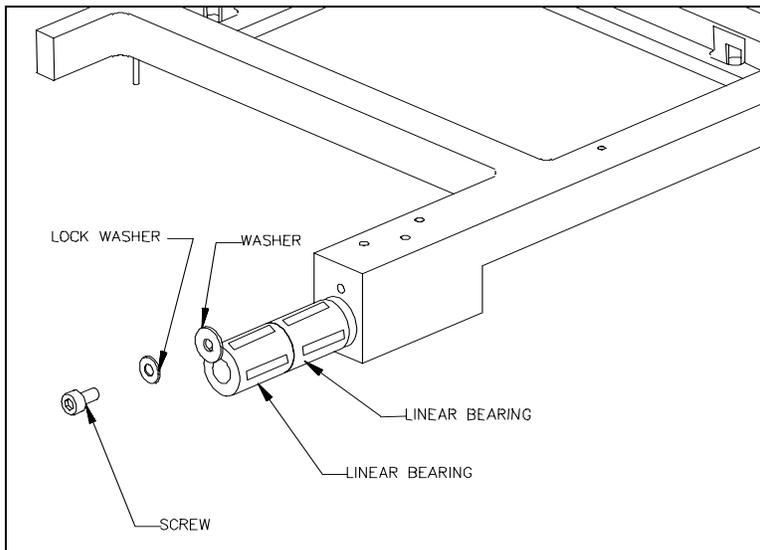

Figure 11-18 Replacing Plate Carrier Bearings
- 1 Remove the M3 x 6mm socket head cap screw, M3 lock washer and M3 fender washer (Figure 11-18).